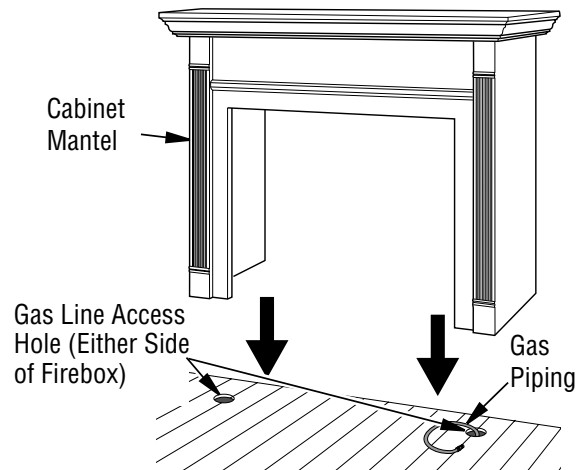

Figure 11 - Installing Cabinet Mantel (Mantel May Vary From Illustration)
2. Install gas piping to firebox location. See Gas Line Installation on Page 11. You may have to cut an access hole in the floor or wall to run gas line to firebox. Make sure to locate access hole so cabinet mantel will cover it when installed (see **Figure 11**).